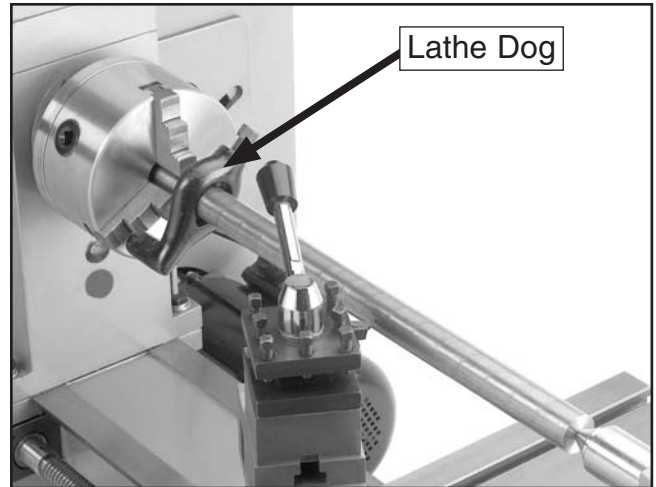

Figure 39. Bar stock mounted between centers with lathe dog.
4. Attach a lathe dog to the bar stock and mount it between the centers (**Figure 39**).